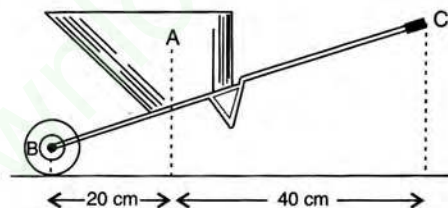

Fig. 3.18
10. Fig. 3.18 below shows a wheel barrow of mass 15 kg carrying a load of 30 kgf with its centre of gravity at A . The points B and C are the centre of wheel and tip of the handle such that the horizontal distance $AB = 20$ cm and $AC = 40$ cm.